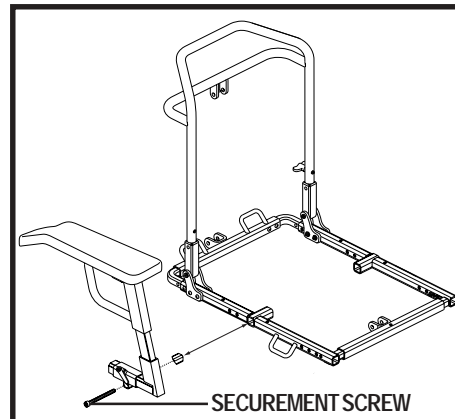

Figure 6. Armrest Width Adjustment
1. Loosen the securement screw located on the bottom of the armrest receiver bracket. See figure 6.